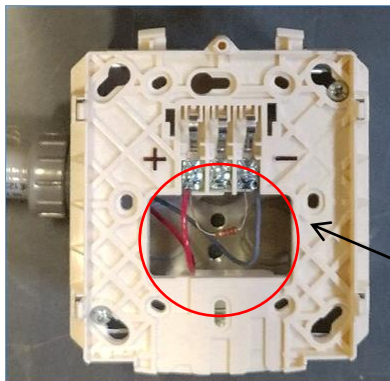

Figure 11
13. See **Figure 11**. Install **end-of-line resistor**, retained from Step 5, at last Signal Horn, between positive and negative terminals.